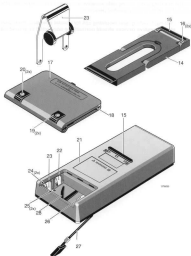

Figure 7.10 Replacing parts in battery compartment
Referring to figure 7.10, use the following procedure for replacements in the battery compartment.
Referring to figures 7.10 and 7.13, use the following procedure for replacing the battery wiring and battery contacts.
4. Solder the solder tags of the battery contacts (figure 7.10, item 23) in the bottom cover in such way that the contacts can be pulled out of the battery compartment.
5. Pull the battery contacts (figure 7.5, items 22 and 23) and the black buffers (figure 7.10, item 24) out of the battery compartment with a pair of tweezers.
NOTE: The extra black plastic buffers in two battery contacts (see figure 7.10, item 23) prevent erroneous charging of the battery. Mount these battery contacts in the correct position.
3. Solder the solder lugs of the contacts (figure 7.10, items 25 and 26) in the bottom cover so that the contacts can be pulled from the battery compartment.
Referring to figure 7.10, use the following procedure for stand replacement.
1. The stand is secured to the ScopeMeter with two black M3 Torx screws (figure 7.10, item 16). Use a Torx screwdriver to loosen the two screws.
1. Remove the stand assembly (figure 7.10, item 16).
2. The black M3 Torx screws are of a captured type (item 16). Remove screws by unscrewing them with a Torx screwdriver. Add a little pressure with another small screwdriver at the back of the screw.